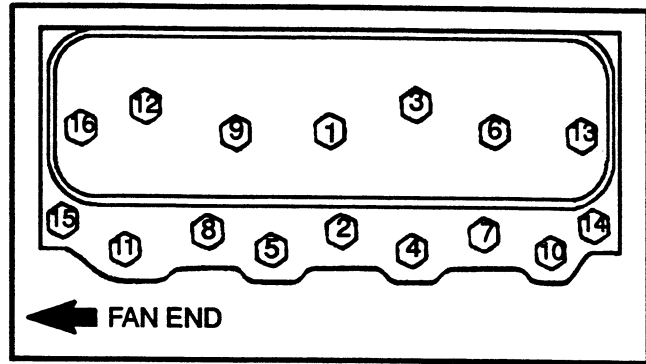

FIGURE 15. TIGHTENING SEQUENCE, CYLINDER HEAD
10. Remove the capscrews that hold the cylinder head to the block. Loosen the capscrews in the reverse order of the tightening sequence shown in FIGURE 15. Remove the cylinder head and the gasket.
4. Use a sealant on the threads of the capscrews for the cylinder head. Tighten the capscrews in three steps to 40 Nm (30 lbf ft), 80 Nm (60 lbf ft) and finally to 115 Nm (85 lbf ft). Use the sequence shown in FIGURE 15.